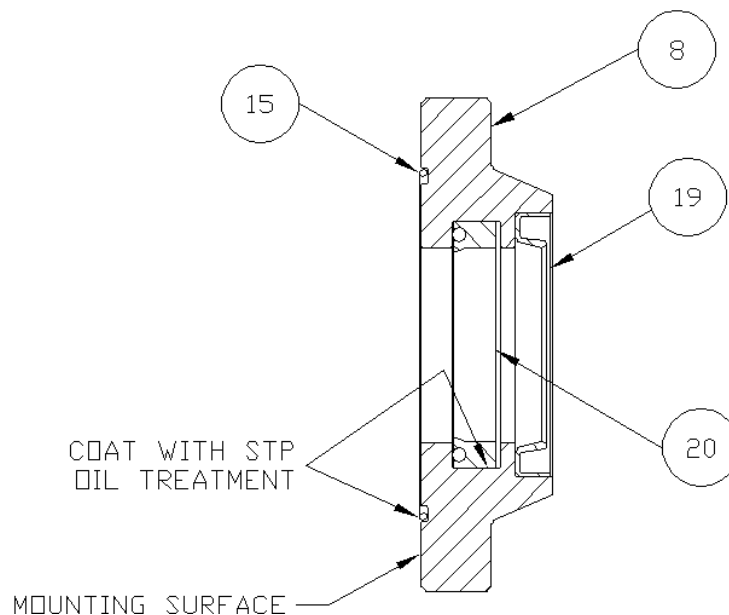

figure A-11
16. Thoroughly clean the bearing caps (8) (fig. A-11) with a mild solvent and lubricate all seal grooves with STP oil treatment. Place the bearing caps (8) on the table (mounting surface down) and install the wiper ring (19) in the outside groove using a rubber mallet or small press. ***(Avoid using tools that may damage seals or scratch bearing cap or bearing surfaces.)*** Turn the bearing cap (8) over. Collapse the pinion seal (20) and carefully work it into the groove. Use fingers to carefully press the seal completely into the groove as shown in figure A-11. ***Be careful not to score or scratch the sealing surface during the installation.*** Install the bearing cap seal (15) by pressing it firmly into the groove on the bearing cap mounting surface.
17. Coat the bearing cap seal area and pinion seal area shown in figure A-11 lightly with STP Oil Treatment.